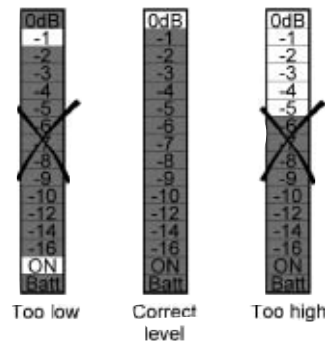

Figure 5. Adjusting the subwoofer levels for a 0dB peak
Press **Play ▶**. As Track 3 plays, watch the RSLM carefully. Watch for peak readings. The peak reading may be no more than a brief flash. Readjust the subwoofer's Level control ④ until the peak level observed is 0dB without triggering the over-range indication. See Figure 5.